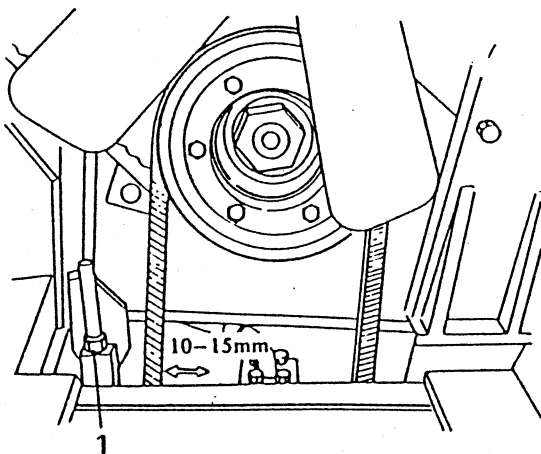

Fig. 25 Hyd. pump drive belt
- 1 Loosen idle pulley retaining bolt 1 of Fig. 25